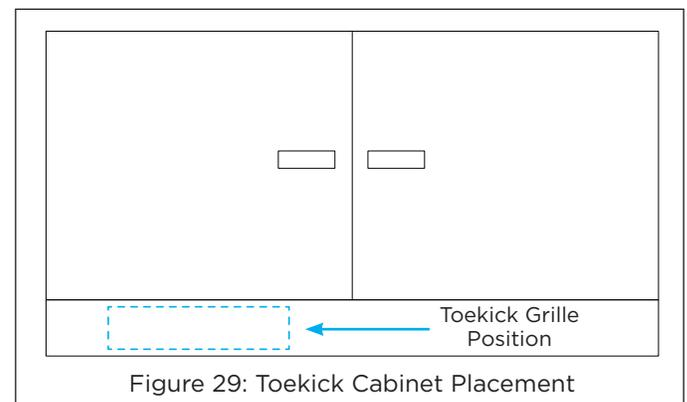

Figure 29: Toekick Cabinet Placement
2. Place the PPX subwoofer inside the cabinet to confirm spacing and positioning for the toekick, taking care to consider the requirements for the pipe tube to connect to the subwoofer and bend to make the connection to the toekick connector and grille (see Figure 29).